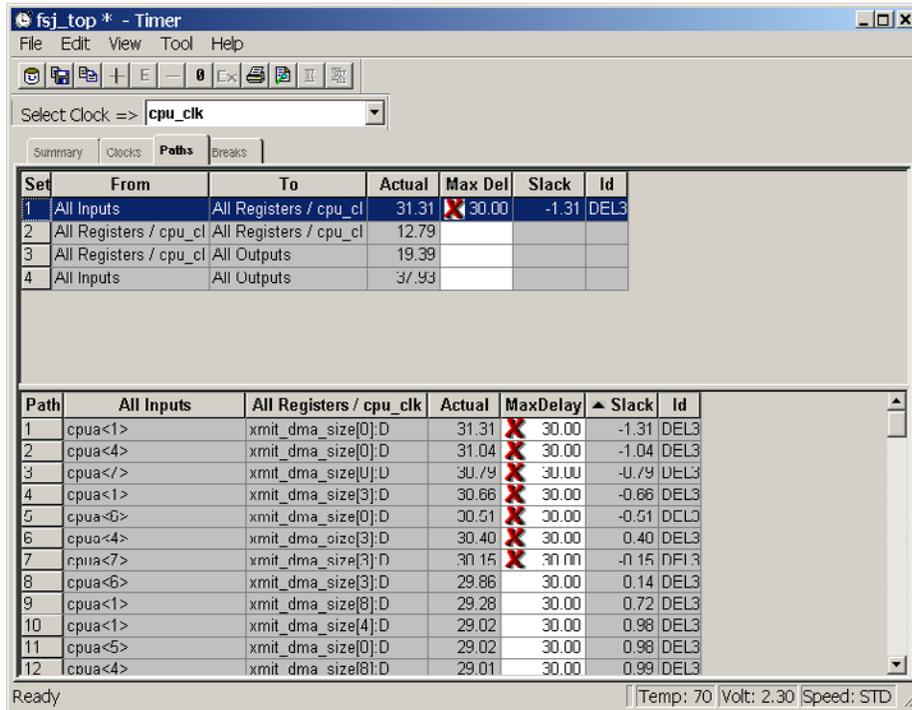
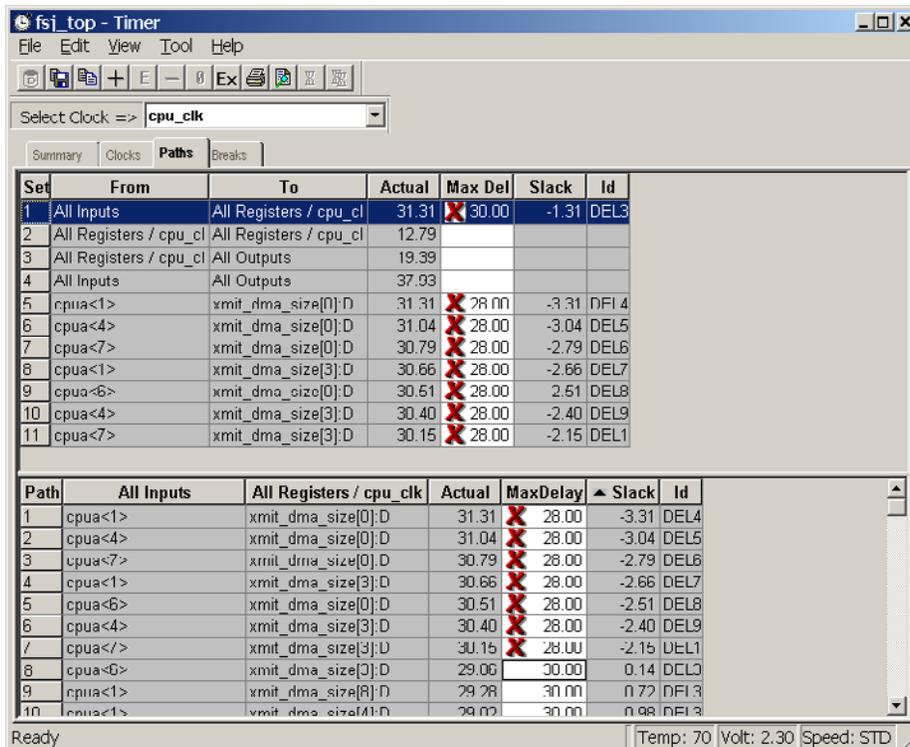

Figure 3 • Input to Register Paths That Violates Timing
Figure 4 • User-Specified Input to Register Paths
- Set a path delay requirement on the violating paths in the corresponding MaxDelay column. For Timer to accept and honor the new MaxDelay timing constraints, the new timing constraint value must be tighter (smaller) than the existing global constraints. For example, the MaxDelay for Path 1 must be less than 30 ns, and the MaxDelay for Path 5 must be less than 30 ns (Figure 3 on page 5). The new accepted constraints appear as the user-defined paths on the top portion of the Timer -> Paths tab (Figure 4 on page 5).